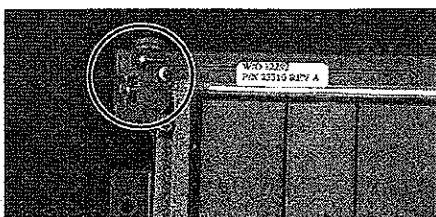

Figure 25
5. The temperature jack has three pins soldered to the display PCB (see Figure 25). To remove the temperature jack, desolder all three pins completely. The display PCB has been conformal coated, so the connector may "stick" slightly when removing.